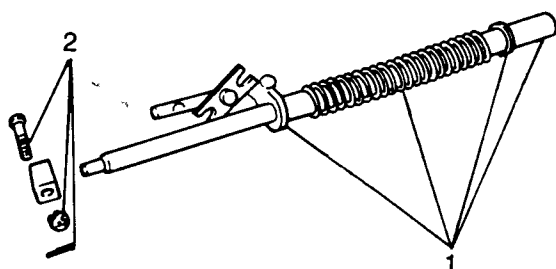

Fig H1.100
(1) Refer to Fig H1.100. Slide off the spacer, bush, spring and pivot assembly (1).
(2) Remove the split pin, castle nut and screw (2) which holds the retaining block, then remove the latter.